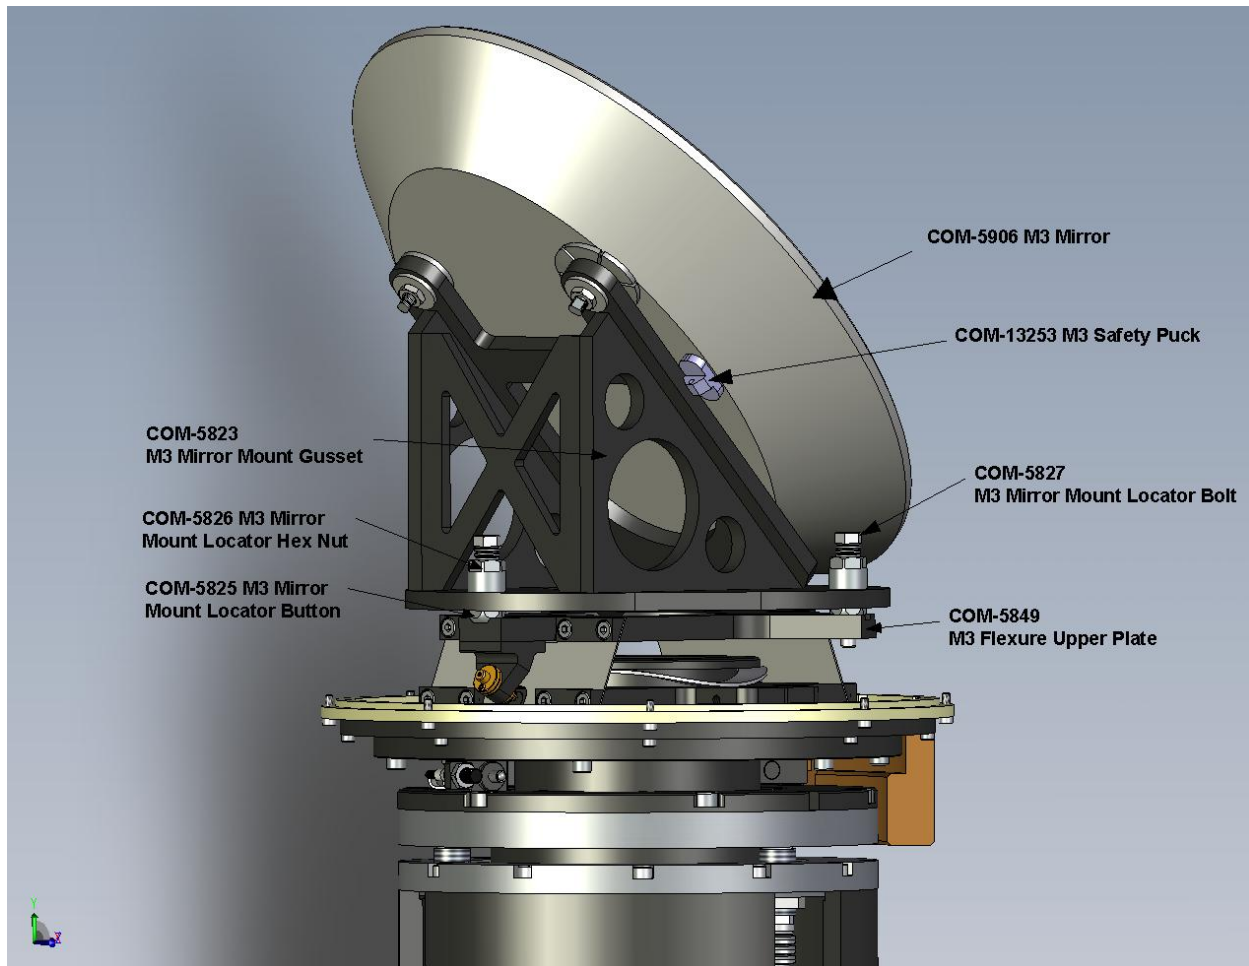

Figure 6 M3 Assembly with Baffle Removed
8. While a second person firmly holds the M3 Mirror Mount Gusset (COM-5823), remove the three M3 Mirror Mount Locator Bolts (COM-5827), see Figure 6. The M3 Rotator can be easily turned by hand to place it in the most convenient position.
7. Have a second person insert and tighten the three M3 Mirror Mount Locator Bolts (COM-5827), see Figure 6.